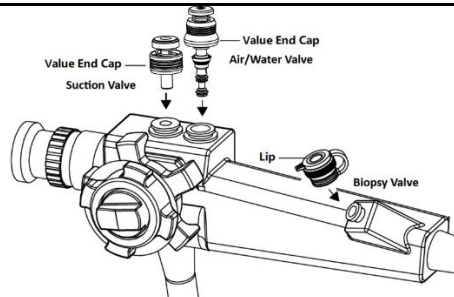

Figure 1
4. Insert the suction valve into the port of the suction channel of an Olympus® 140/ 160/ 180/ 190/ 240/ 260/290 Series GI endoscope (see Figure 1 below).
9. Insert the air/water valve into the port of the air/water channel of an Olympus® 140/ 160/ 180/ 190/ 240/ 260/290 Series GI endoscope (see Figure 1 below).
13. Securely place the biopsy valve onto the port of the biopsy channel of an Olympus® 140/ 160/ 180/ 190/ 240/ 260/290 Series GI endoscope (See Figure 1). **Note:** This biopsy valve does not accommodate a Luer-lock syringe without an irrigating adapter.